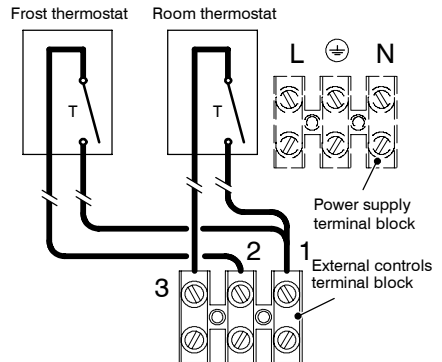

Fig. 6.16
- 10 Connect the frost thermostat between terminals 1 and 2 as shown in Fig. 6.16.